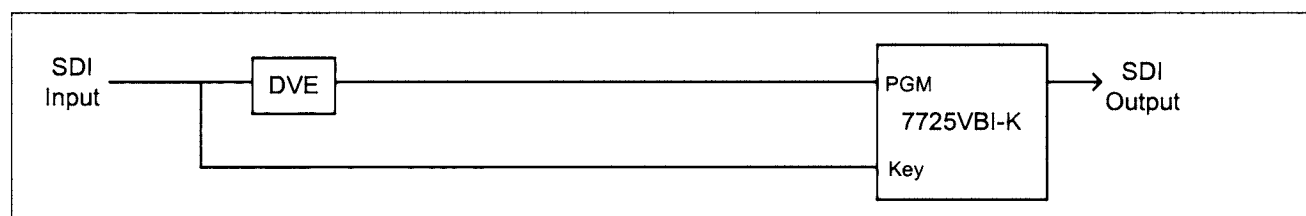

Figure 3: VBI Data Bridge Application
- Figure 3: VBI Data Bridge Application 2